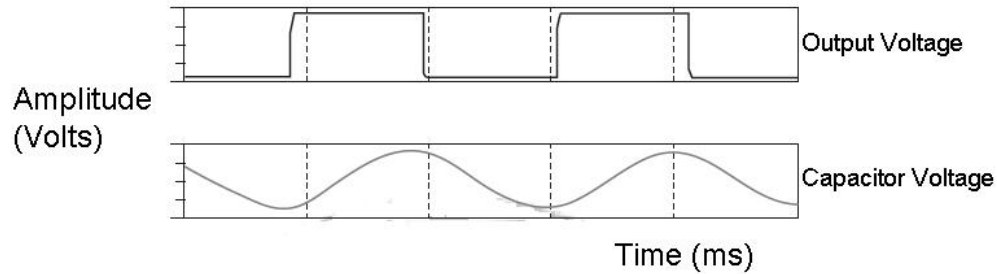

Figure 2 – Sample waveform (Transient Response)
- 2.1. Plot the transient response (plot of the  $V_o$  and  $V_c$  as a function of time) for maximum value of frequency of oscillation – the sample waveform is shown in Figure 2.